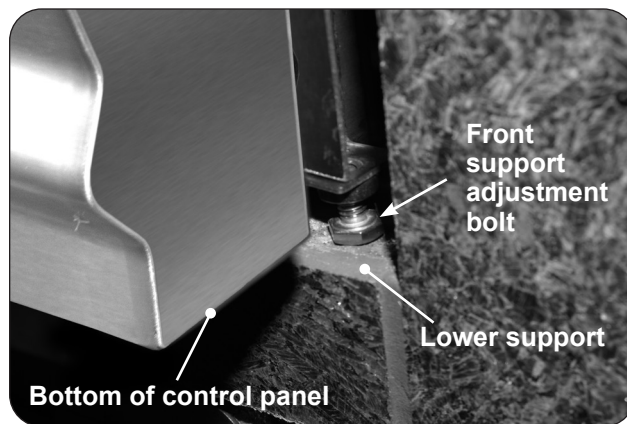

Fig. 25-1 Front support adjustment bolts
2. Rotate the front support adjustment bolts (up or down) until the grill hanger rests flush on the countertop, AND, the adjustment bolts are touching the supporting structure found at the bottom of the cutout (lower support). Use a $\frac{7}{16}$ " open-end wrench as needed. See Fig. 25-1.